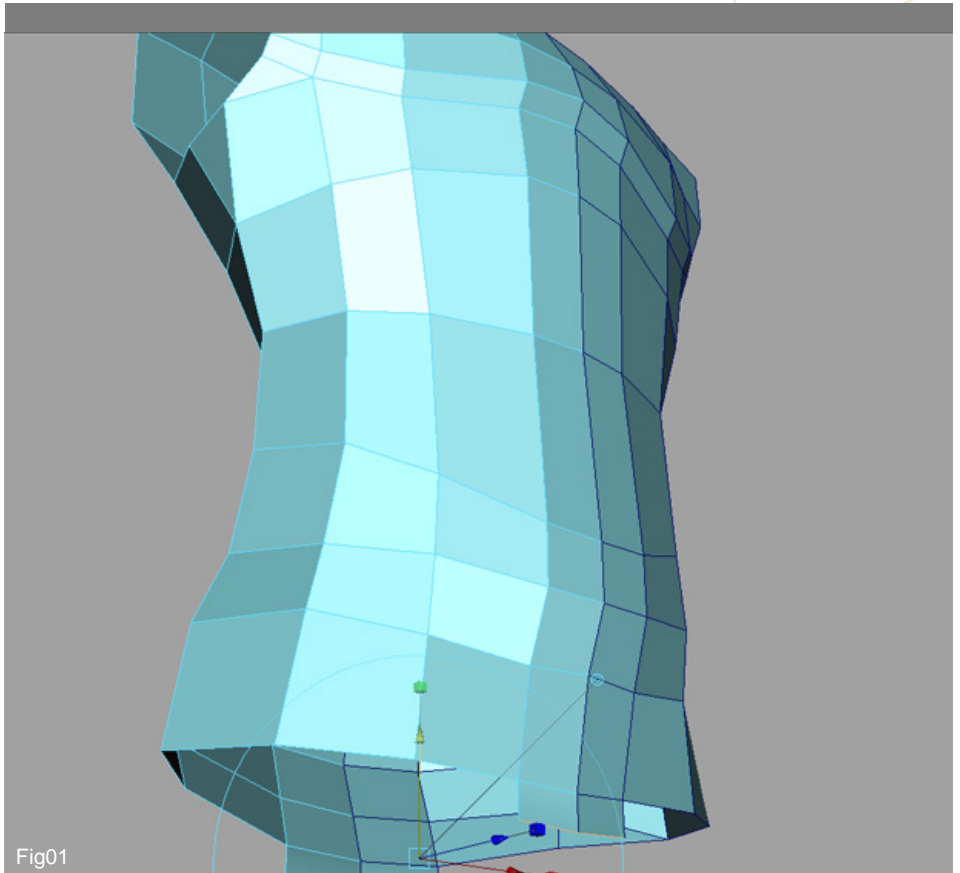

Fig01
1. Open the old scene containing the Swordmaster's body. Select the edge from the front and the edge from the back, as in Fig01, and extrude them downward a little bit. While the extrude cursor is still active, scale them inside in order to bring them closer. We intend to unify the back and the front with a surface crossing between the legs.